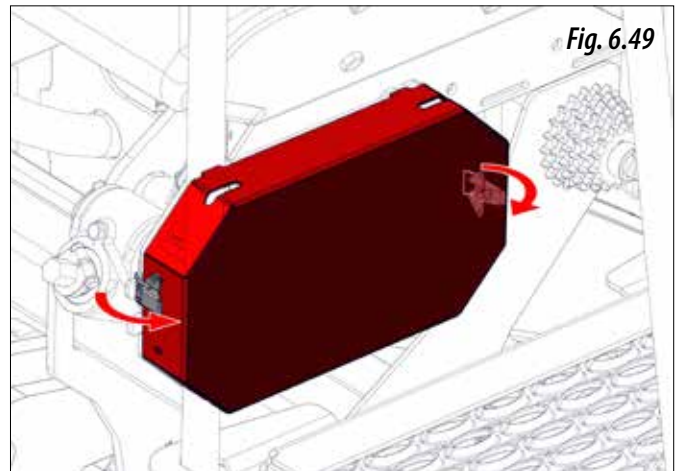

Fig. 6.49
- 5- Use the two fasteners to assemble the chain cover (Fig. 6.49)